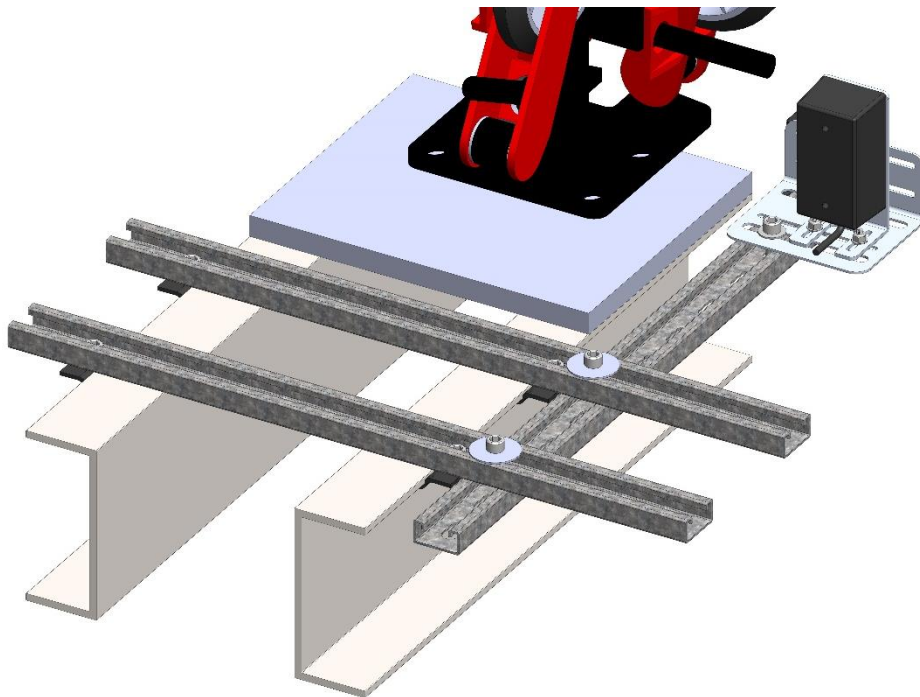

Figure 8: Alternate Unistrut installation
| Figure 8: Alternate Unistrut installation..... | 10 |
- Space permitting, the Sensor Array Shelf may be installed on top of the C-channel beams as shown in figure 8.